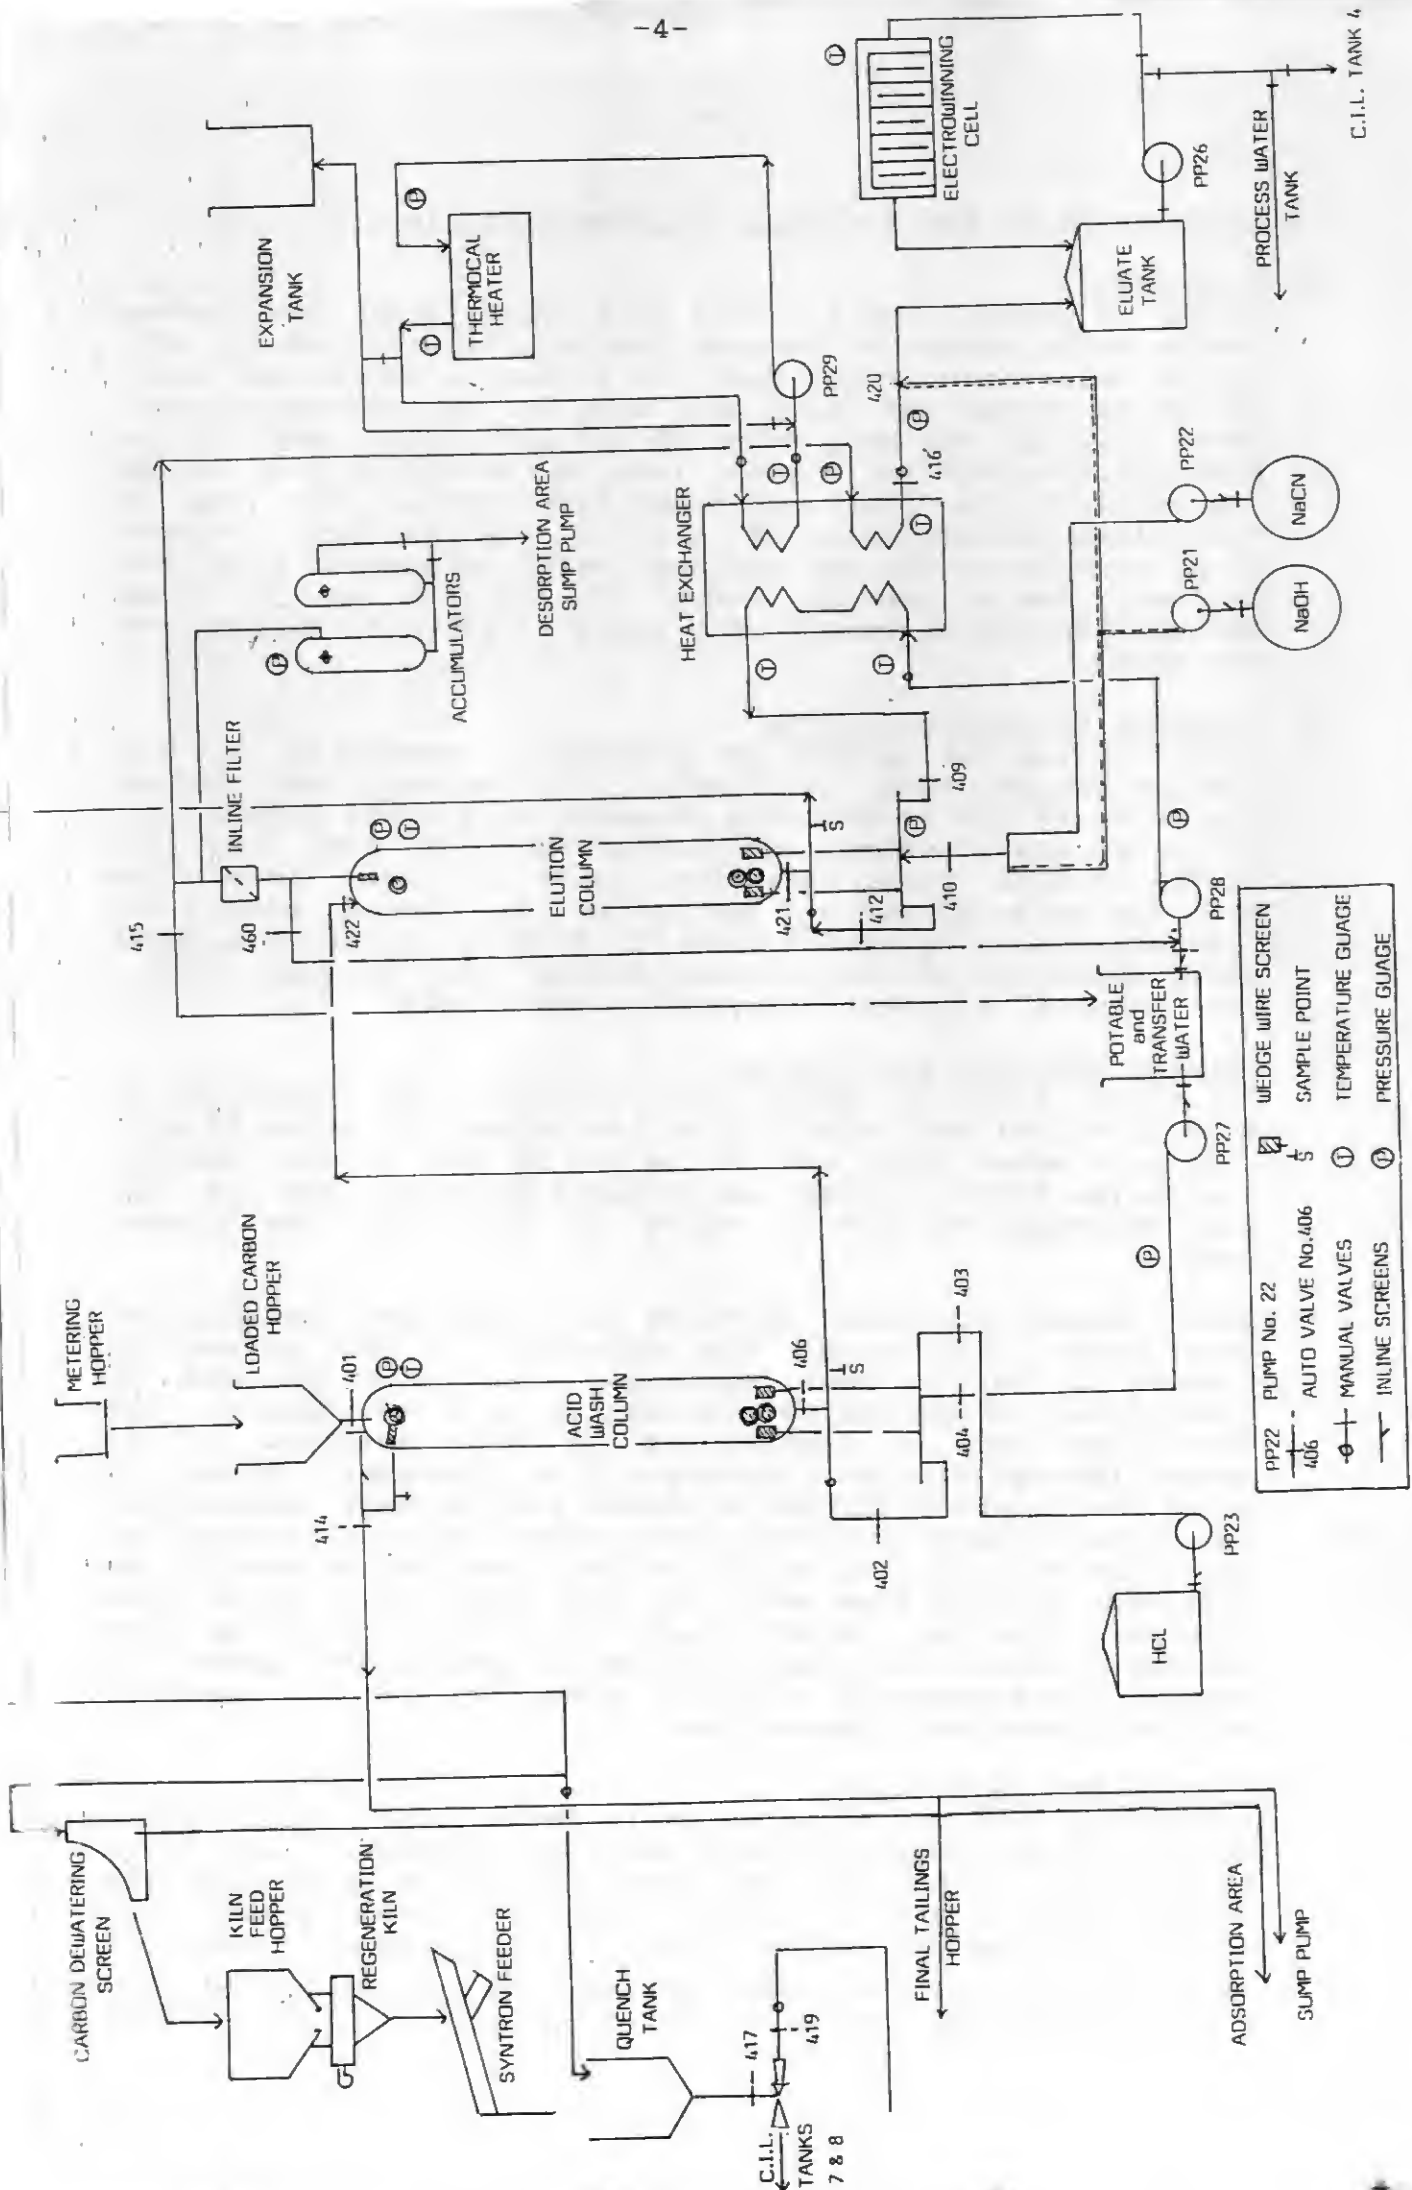

Fig. 1 Flow Diagram of the Stripping System
1.3 Description of the Stripping Process (See fig. 1)